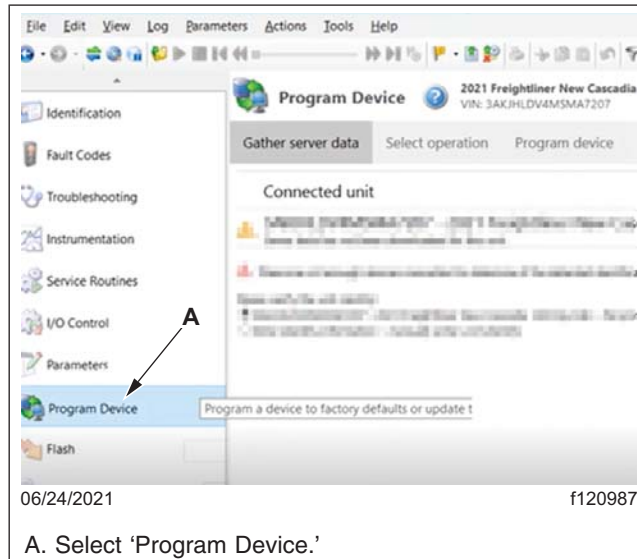

Fig. 2, Selecting Program Device
- Go to 'Program Device,' then select 'Gather Server Data.' Verify and select the vehicle identification number (VIN), then select 'Download Data from Server.' See Fig. 2 and Fig. 3.
- 13.1 Select ‘Program Device’ on the left-hand side of the window. See Fig. 2, page 6.